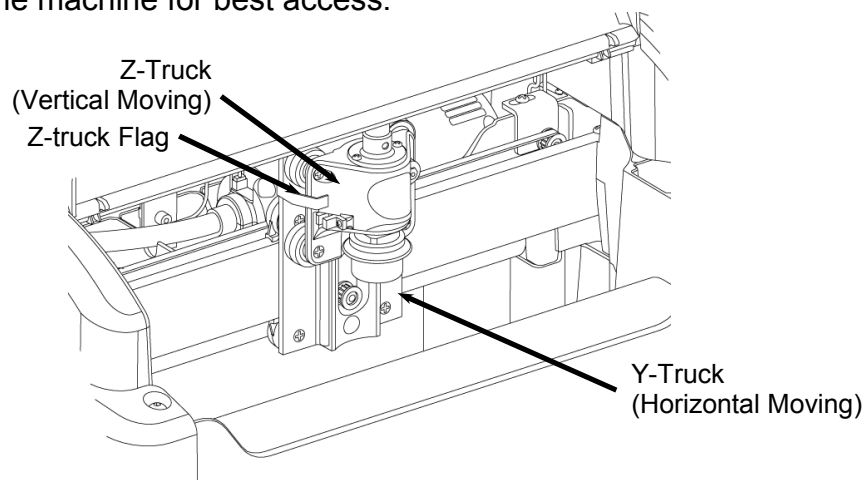

FIGURE 1: VIEW OF THE Z-TRUCK
12. **Remove the Y-truck roller bearing wipers:** Remove all four of the roller bearing wipers on the Y-truck by gently pulling them off. Also if your machine still has a Z-truck Flag, as in Figure 1, you may remove it permanently. It is no longer used or needed.